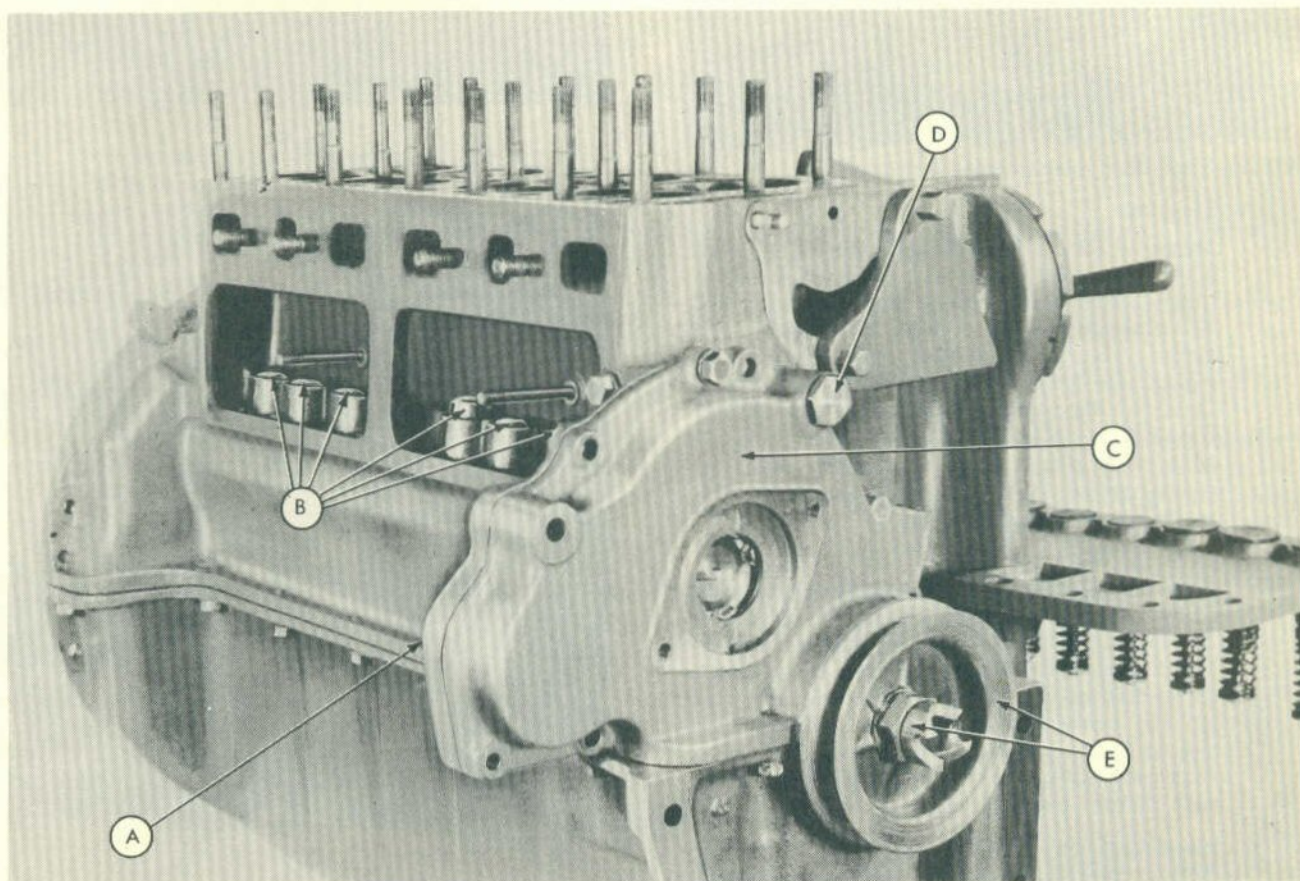
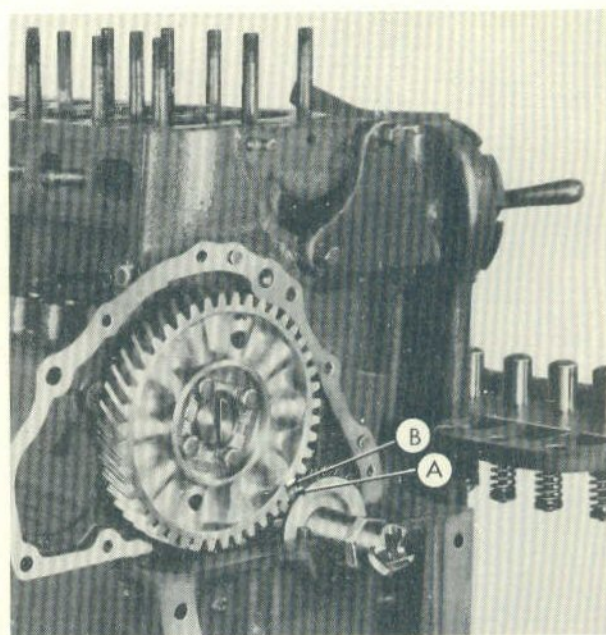

Fig. 5
Fig. 7
a. Remove the side gear cover (A-Figure 5).
Step 2—Remove the push rods (B-Figure 5) and place with corresponding valves as shown in Figure 7.
Step 3—Remove crankshaft ratchet and pulley assembly (E-Figure 5).
Step 4—Remove oil relief valve (D-Figure 5).
- Step 5—Remove the timing gear cover (C-Figure 5).
- Step 6—Install the crank ratchet and turn crankshaft until "0" on the crankshaft gear (A-Figure 7) is aligned with the mark on the camshaft gear (B-Figure 7). (This step will facilitate timing when reassembling.)
- Step 9—Thoroughly clean and install the camshaft. Time the camshaft by aligning the marks as shown in Figure 7.